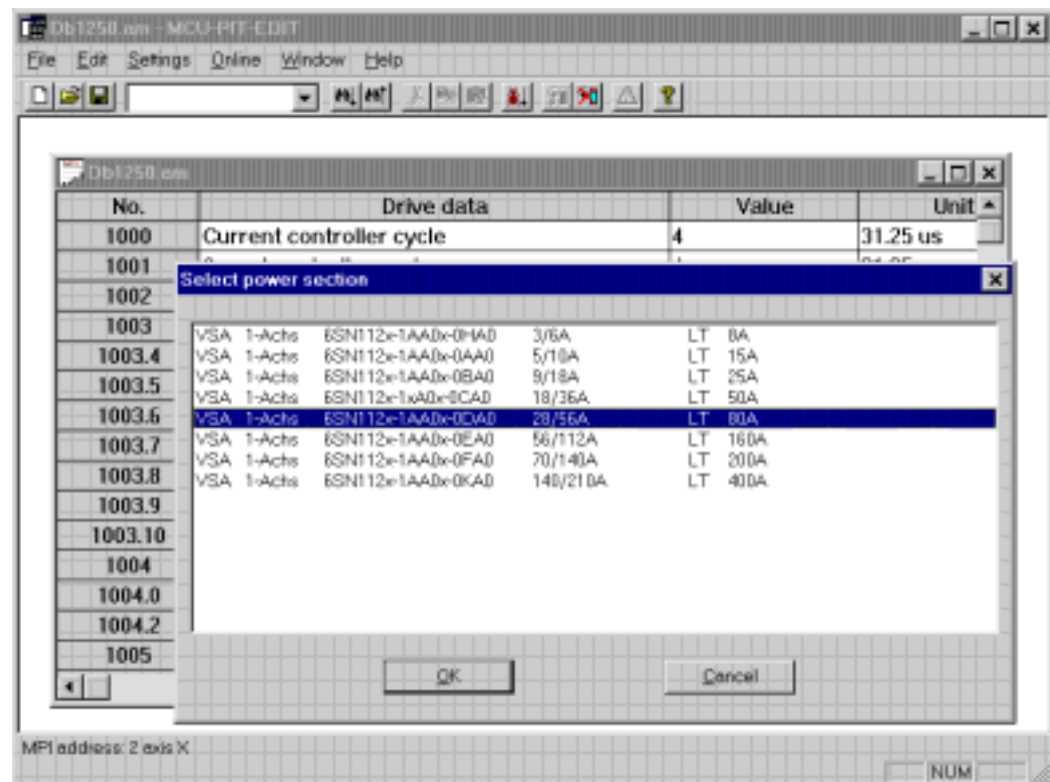

Figure 4-15 Selecting the power unit used
2. Select your power unit with the function "Power Unit Selection" (see Figure 4-15).